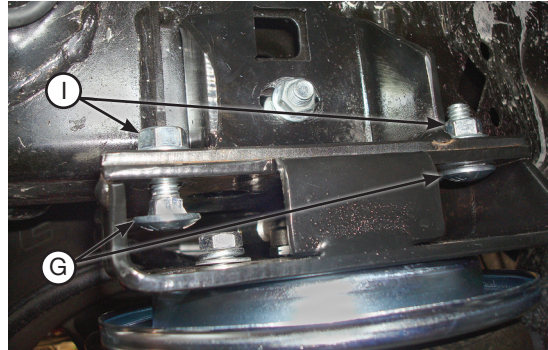

fig. D.19
7. Raise the axle up just enough so that the upper brackets meet the braces. Insert the 3/8"-16 x 1" carriage bolts (G) up through the square holes in the upper brackets and through the braces (Fig. D.19). Install the 3/8"-16 serrated flange nuts (I) onto the carriage bolts. Snug the nuts but do not tighten at this time.